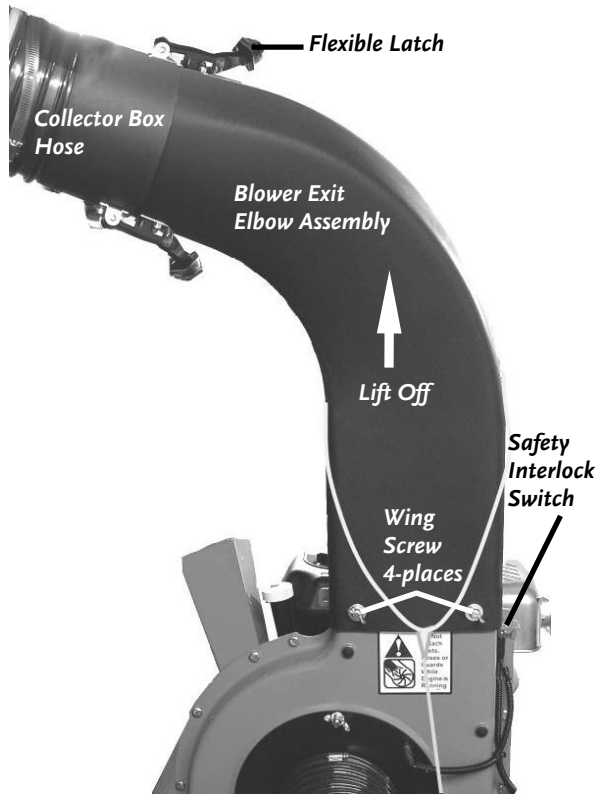

Figure 45
1. Disconnect the Blower Exit Elbow to the Collector Box Hose by releasing the two flexible latches (**Figure 45**) and separate the hose.
2. Remove the four (4) Wing Screws from the Blower Exit Elbow Assembly (**Figure 45**).
3. Lift the Blower Exit Elbow Assembly from the top of the Blower and install a new assembly in the reverse order (**Figure 45**).
1. Disconnect the Blower Exit Elbow Assembly from the Collector Box Hose (**Figure 45**).
1. Disconnect the Blower Exit Elbow Assembly from the Collector Box Hose (**Figure 45** on page 42).